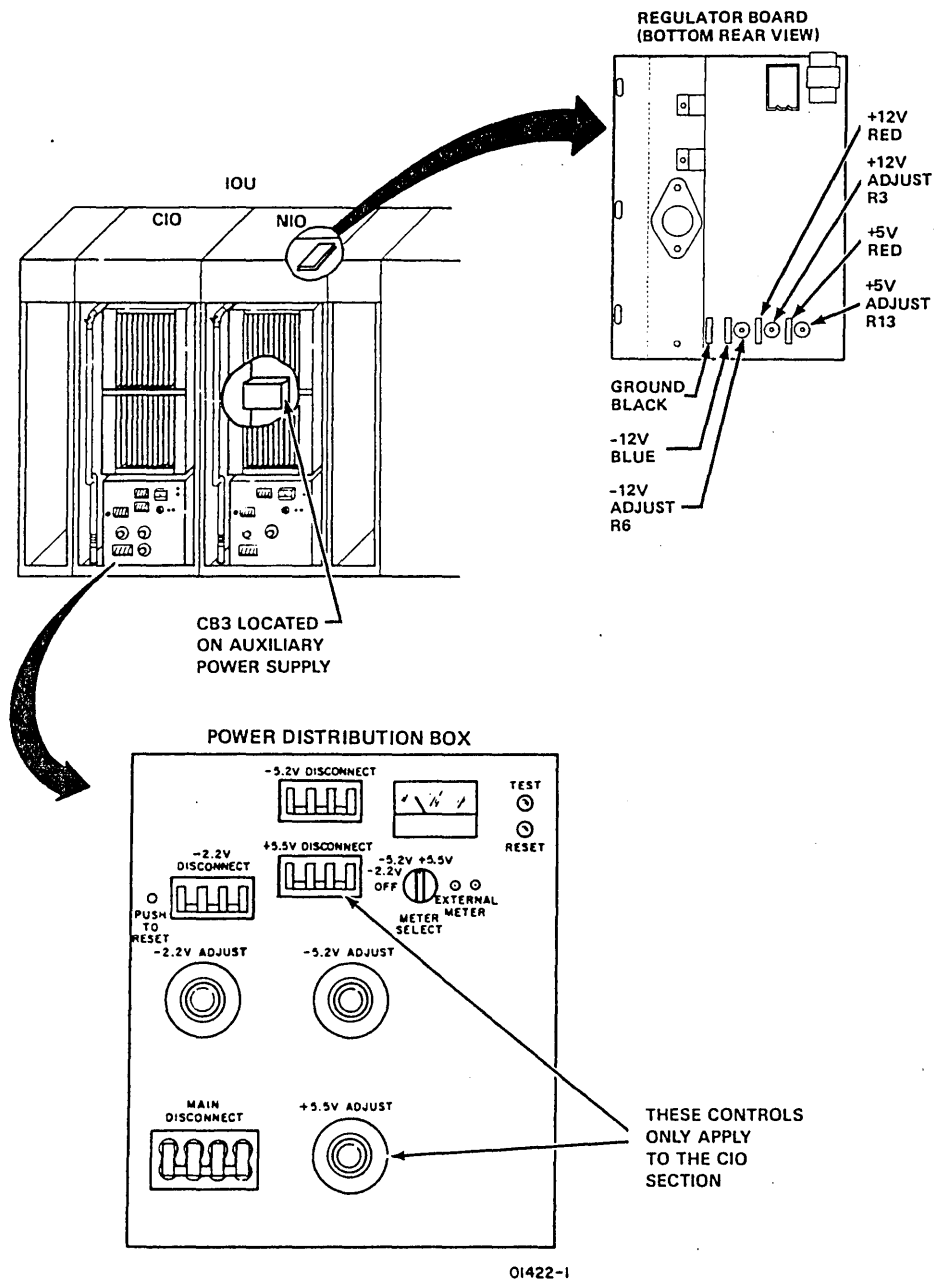

Figure 3-43. IOU Power Controls and Adjustments
- ___ 7. Apply NIO cabinet power by sequentially setting section circuit breakers (figure 3-43) as follows: